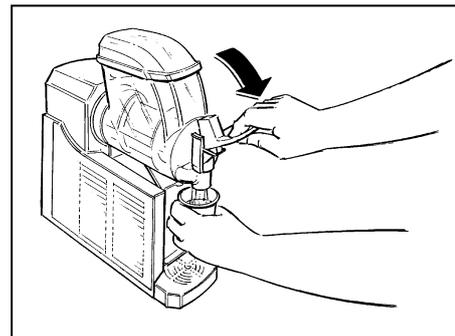

Fig. 7
- Once that the product reaches the set temperature, to deliver, put the glass under the tap and pull the leve ras shown in figure 7.